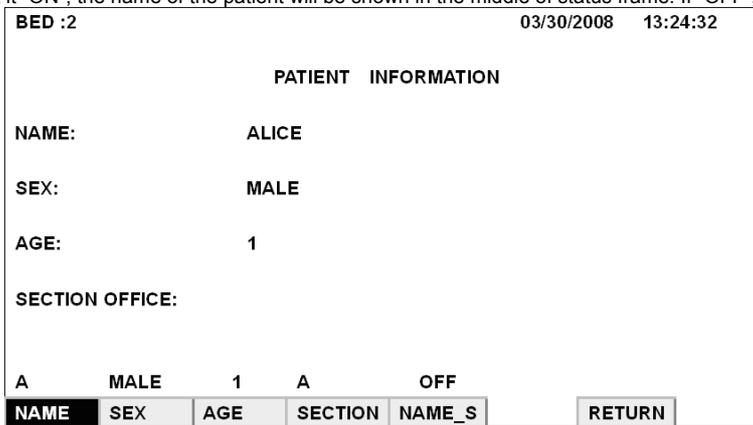

Fig.6-8
- (1). **VER608**: when you set it "send", it will get the version of the CSN608 module.
- (2). **RESET**: when HR value is not activated, press this item will refresh the value and make it work orderly.
- (3). **SYSTEM**: this function is set by the distributor, please keep them unchanged.
- (4). **BED**: Indicates the bed number of the patient being monitored when the patient monitor is connected with the workstation, it always shows on the top left corner in the monitor status frame.
- (5). **MESSAGE**: Rotate the knob and select "MESSAGE" item to access the picture shown as below Fig.6-8. "MESSAGE" sub-menu will be indicated in the bottom of the picture.
- ① **NAME**: You can select "A-Z", "DELETE", "DELETE ALL", or "CANCEL". In the "A-Z" mode you can input the name of the patient one by one character by rotating and pressing the knob, the name will be indicated on the right side of the "NAME" item. The number of the characters is 20 at the most. "DELETE" can delete the last character. "DELETE ALL" can delete all characters inputted. "CANCEL" means this setup will be cancelled.
- ② **SEX**: You can set it "FEMALE" or "MALE". It will be shown on the right side of the "SEX" item.
- ③ **AGE**: In the item, input the age of the patient. The range of age is 1-200. The value will be indicated on the right side of "AGE" item.
- ④ **SECTION**: The selected items are "A-Z", "DELETE", "DELETE ALL", or "CANCEL". The same as "NAME" setup, you can input the name of the section office. You can cancel this setup by selecting "CANCEL".
- ⑤ **NAME_S**: If you set it "ON", the name of the patient will be shown in the middle of status frame. If "OFF", the name won't be shown.